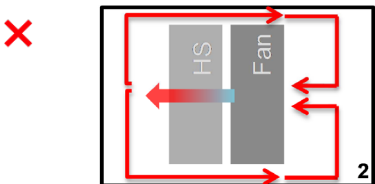

Figure 20. Design guidelines for active cooling solutions.
- Recirculation of hot air (Figure 20) inside the luminaire should be prevented, as this will lead to a lower thermal performance and higher noise level.